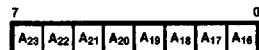

Figure 11. I/O Page Register
**I/O Page Register.** This 8-bit register (Figure 11) indicates the bits to be appended to the 16 bits that are output during the I/O address phase of I/O transactions.